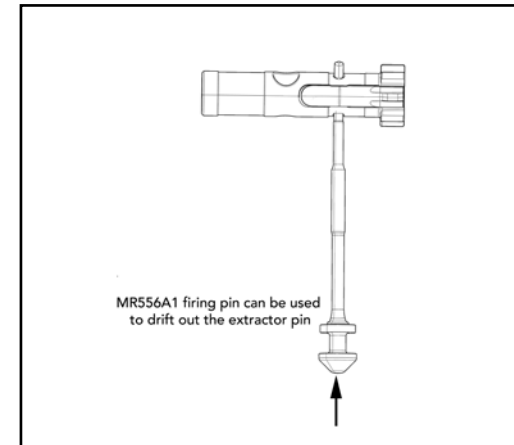

Fig. 29 – Drift out the Extractor Pin
- g. Depress the rear of the extractor to equalize pressure and then drift out extractor pin utilizing the small tip of the disassembly tool. The rifle's firing pin can also be used. The extractor pin can be removed from either direction (Fig. 29).